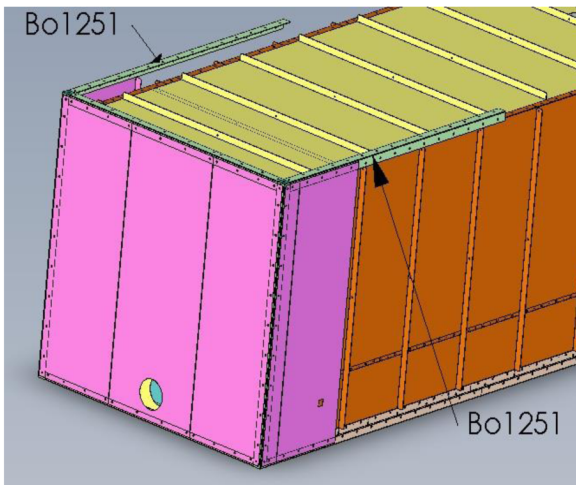

Figure 17
16) Now install BO-1251 on both sides of your oven. **See figure 17.**